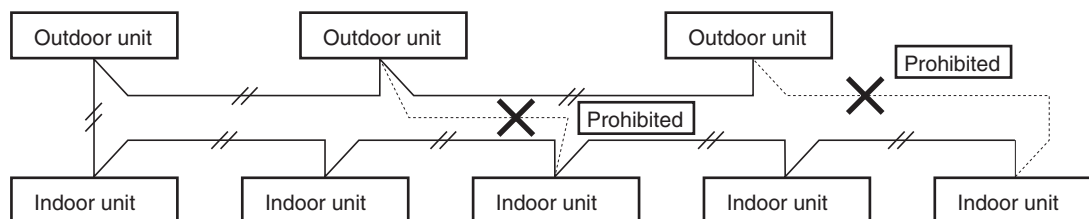

Fig. 2-2
- (2) Do not install the inter-unit control wiring in a way that forms a loop. (Fig. 2-2)